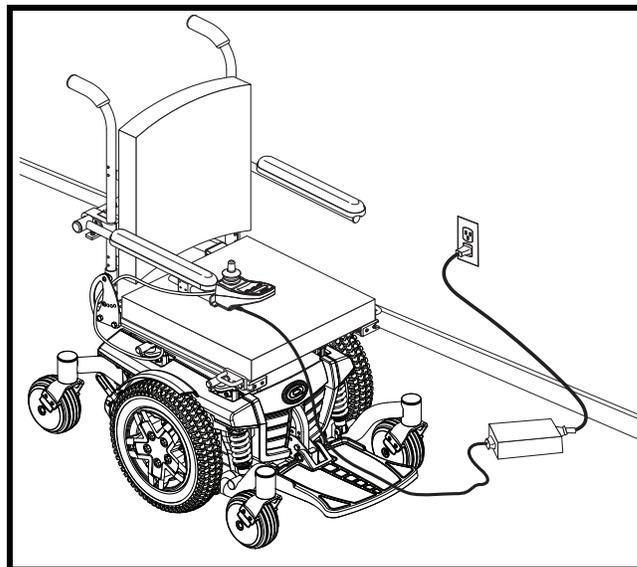

Figure 22. Battery Charging
3. Plug the off-board charger into the off-board charger/programming socket on the controller. **See figure 22.**